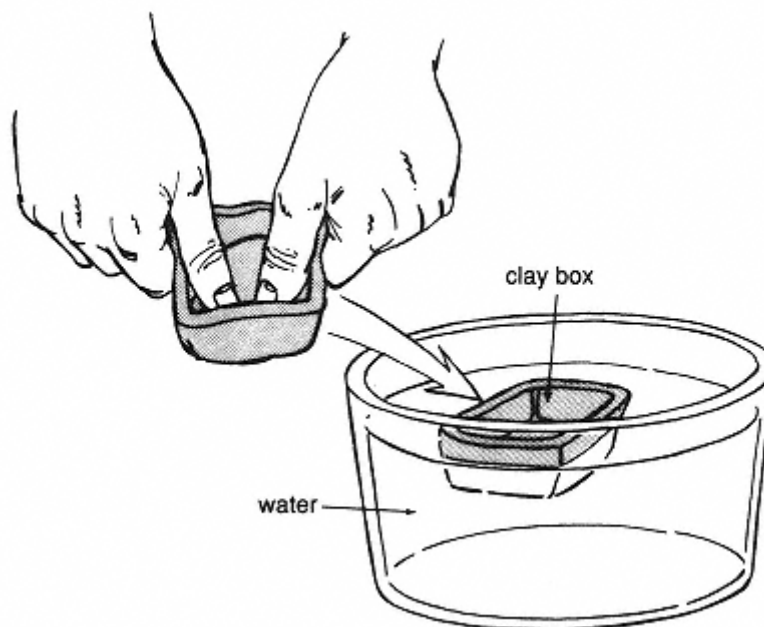

Figure 20.2
9. Gently place the clay box, open side up, on the surface of the water in the bowl (see Figure 20.2).